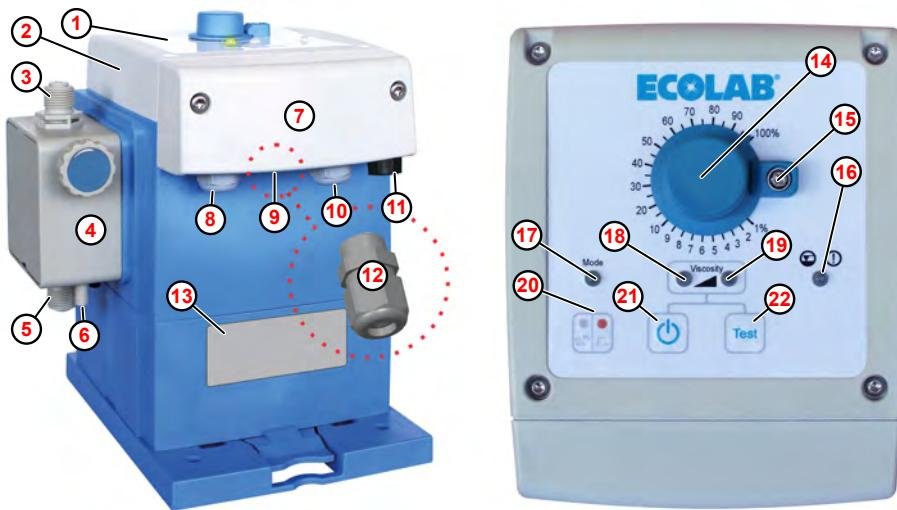

Fig. 1: Layout and control elements 'EcoUp'
For the cable connection of the alarm signal, the package of the pump contains a corresponding cable gland M12 x 1.5 (Fig. 1, ⑫).
- $AD \varnothing = 5.1-5.7 \text{ mm}$  (⑧ - ⑩).